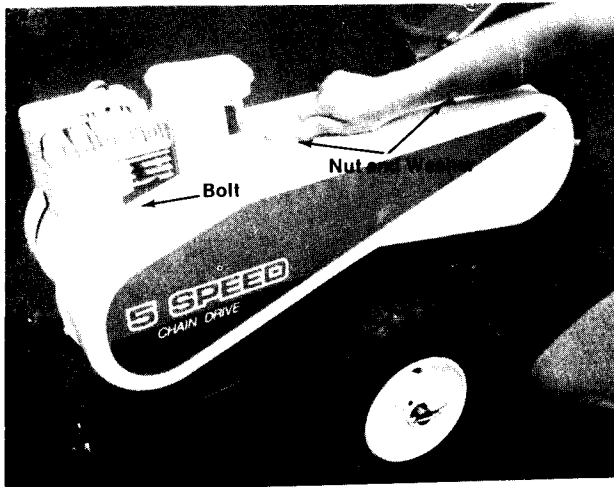

FIGURE 36.
1. Remove belt cover, remove three bolts, two nuts and two flat washers. See figure 36.